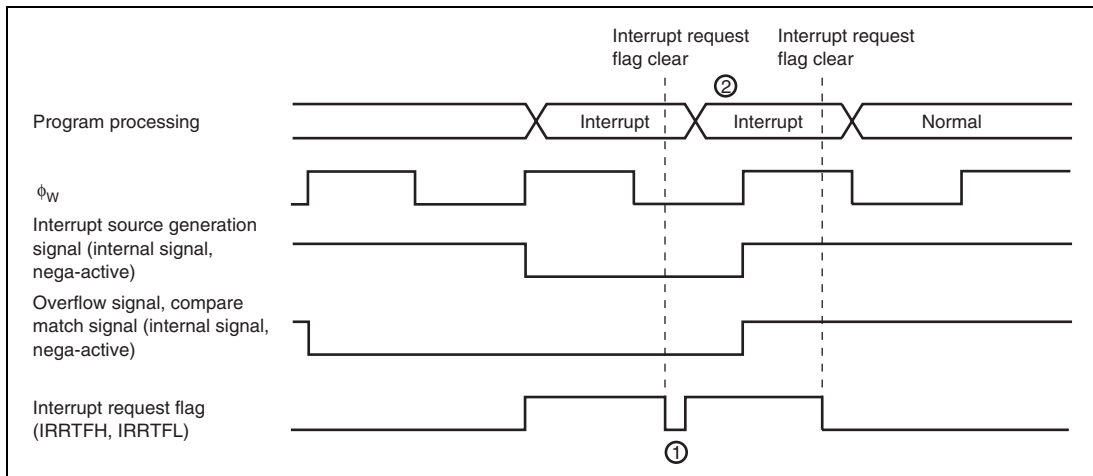

Figure 12.7 Clear Interrupt Request Flag when Interrupt Source Generation Signal is Valid
When the internal clock $\phi_w/4$ is selected as the counter input clock, "Interrupt source generation signal" will be operated with ϕ_w and the signal will be outputted with ϕ_w width. And, "Overflow signal" and "Compare match signal" are controlled with 2 cycles of ϕ_w signals. Those signals are output with 2-cycle width of ϕ_w (figure 12.7)
In active (high-speed, medium-speed) mode, even if you cleared interrupt request flag during the term of validity of "Interrupt source generation signal", same interrupt request flag is set. (1 in figure 12.7) And, the timer overflow flag and compare match flag cannot be cleared during the term of validity of "Overflow signal" and "Compare match signal".
For interrupt request flag is set right after interrupt request is cleared, interrupt process to one time timer FH, timer FL interrupt might be repeated. (2 in figure 12.7) Therefore, to definitely clear interrupt request flag in active (high-speed, medium-speed) mode, clear should be processed after the time that calculated with below (1) formula. And, to definitely clear timer overflow flag and compare match flag, clear should be processed after read timer control status register F (TCSRFB) after the time that calculated with below (1) formula.